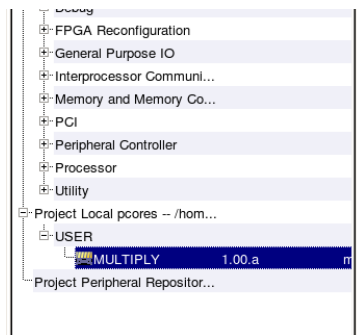

Figure 7: Add IP
- (a) In the XPS window, click on the 'IP Catalog' tab in the upper left corner. Expand the 'Project Local pcores' category in the IP catalog. Your 'multiply' peripheral should show up under 'USER'. Right click on it and select 'Add IP'. See Figure 7)